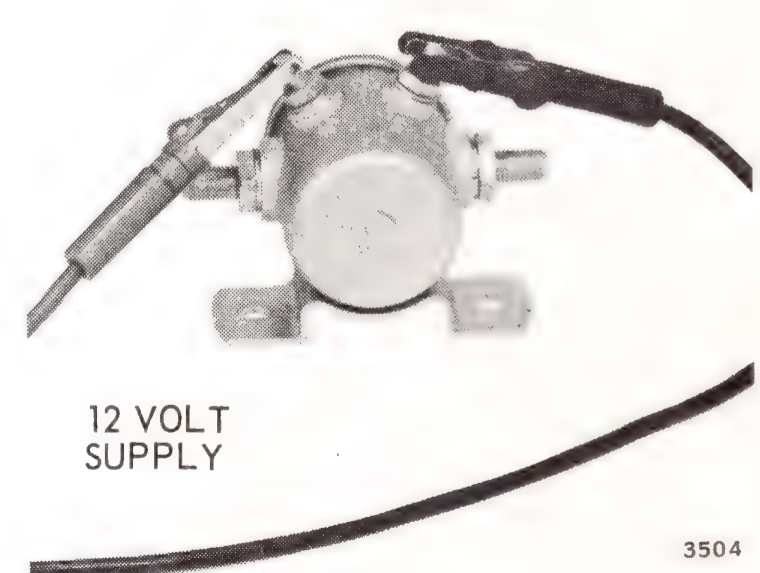

Figure 7-10. Checking Solenoid Coil
g. The starter solenoid is a sealed unit and is serviced only as an assembly. To test the solenoid, operate the starter switch, or apply 12 volts from a separate battery. See Figure 7-10. The solenoid plunger should give an audible click as it operates. The solenoid must be replaced as a unit if defective.